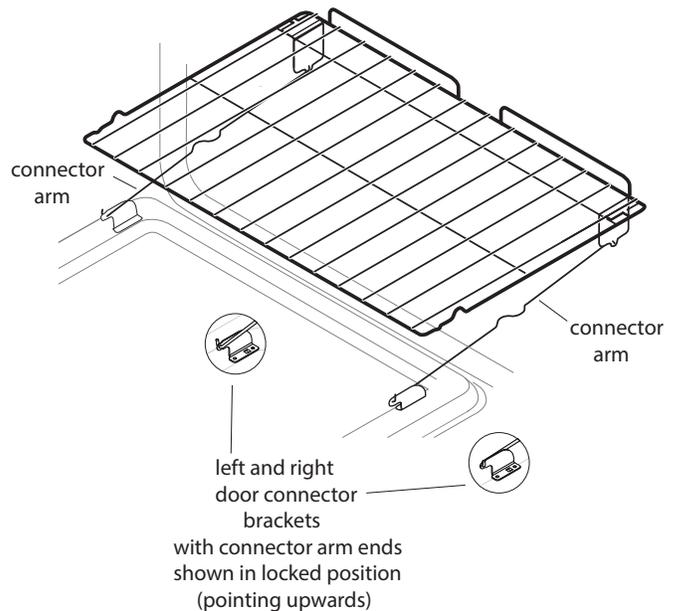

**Figure 21: Connector arm/door connection**
5. Assemble one connector arm at a time. With the oven door open and the oven rack in place, install one end of the connector arm to the hole in the door connector bracket (Figure 21) and the other end in the hole in the rack connector bracket (Figure 22). The oven rack may need to be adjusted in or out in the rack position to match the length of the connector arm.